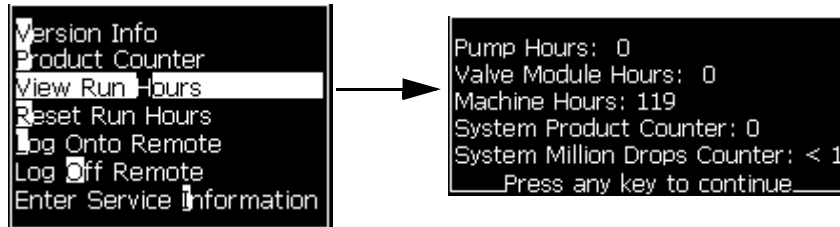

Figure 4-18: View Run Hours
- 1 Select *View Run Hours* (see Figure 4-18) from the *Data Logging* menu. The run hours dialog box appears.